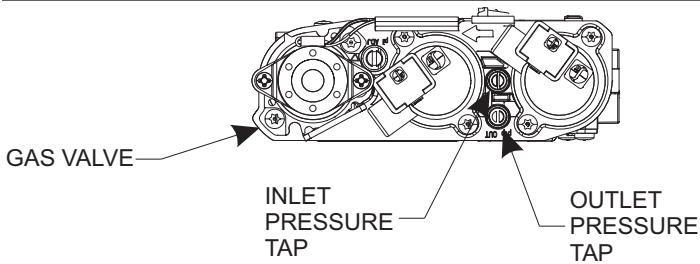

Figure 16
**NOTICE:** The gas control is equipped with a captured screw type pressure test point; therefore it is not necessary to provide a 1/8 inch test point up stream of the control. See Figure 16. When using copper or flex connector use only approved fittings.